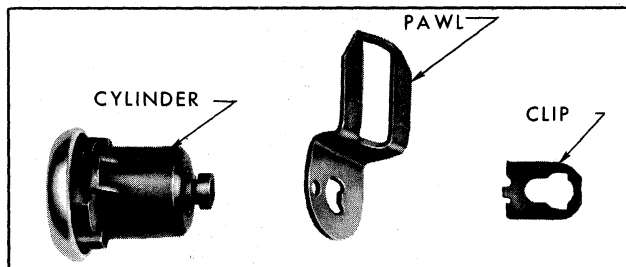

Fig. 5-93-Door Lock Cylinder Assembly
2. With a pointed tool, disengage pawl retaining clip and remove pawl (Fig. 5-93).